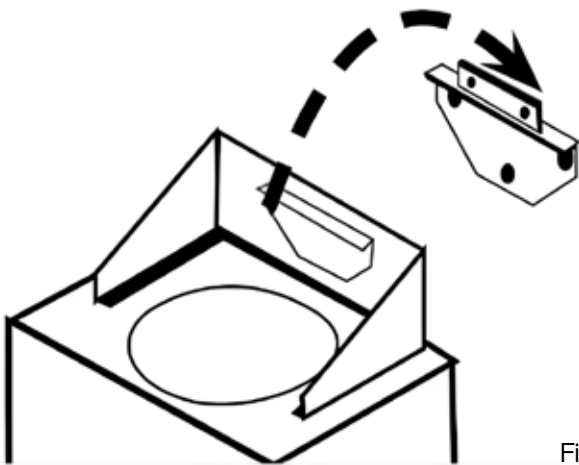

Fig.4
6. Once the bracket is secure, using two people, lift the hood and drop the horizontal support bar onto the fixed bracket (Fig. 4).